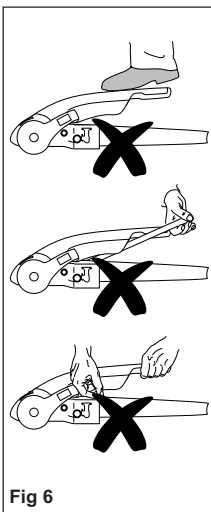

Fig 6
- 2) Press stabiliser lever down by hand force only **DO NOT** use your foot or an extension bar, this will damage the components (Fig. 6).
- 3) When opening or closing the stabiliser lever, please ensure your hand does not touch the coupling handle - you may accidentally trap your fingers! (Fig. 6).